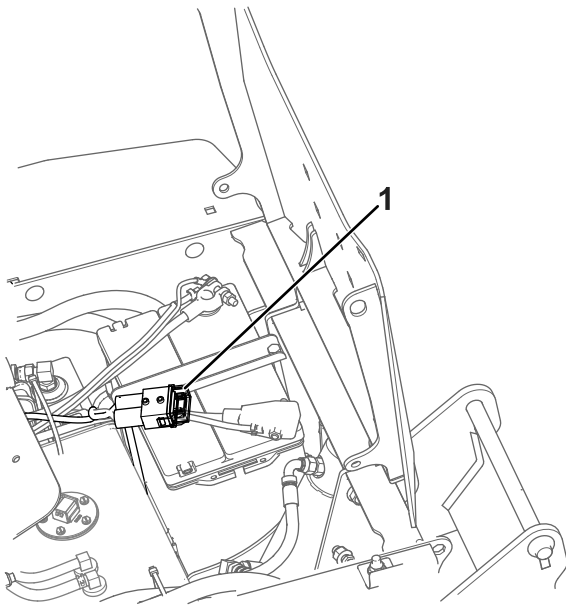

Figure 41
2. Locate the main fuse on the wire harness, near the battery, and remove the fuse cap (Figure 41).